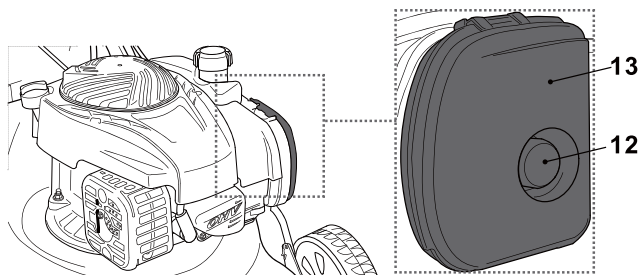

Fig. 17
The primer (12) is positioned in the air filter case (13). Use the primer (12) when starting the product with cold engine (Fig. 17).